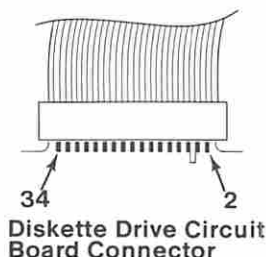

Figure 16. Voltage Check
- Power on the system and monitor the voltage at pin 18 of diskette drive A (Figure 16). The voltage should decrease from approximately 5 Vdc at the start of the POST to approximately 0 Vdc before the beep at the end of the POST.